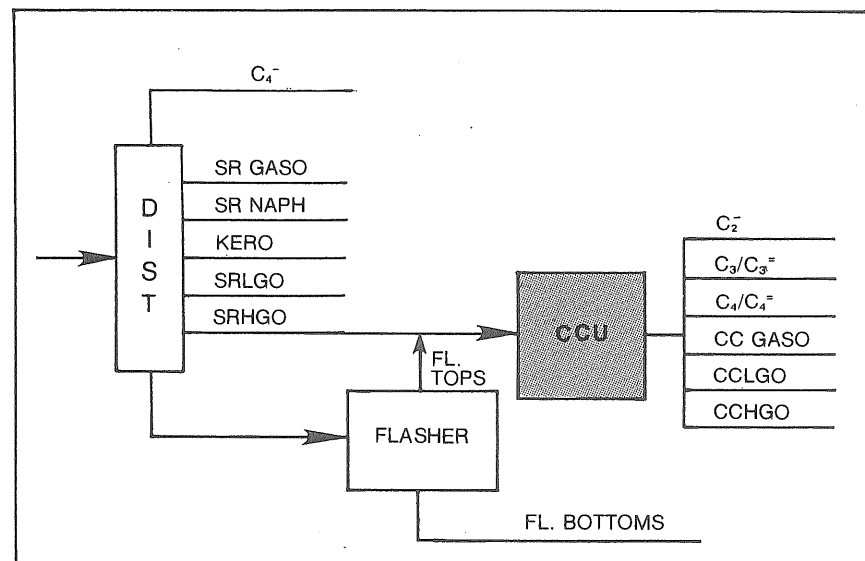

Fig. 6-5 —Refinery Flow Diagram
**Review** From a process point of view, the cat cracker can be sketched as a feed-in/product-out box in the refinery flow diagram. Thus far, you've covered distilling, flashing, and cat cracking. The way in which these come together is shown in Fig. 6-5. This diagram introduces the shorthand notation that will be used from here on.